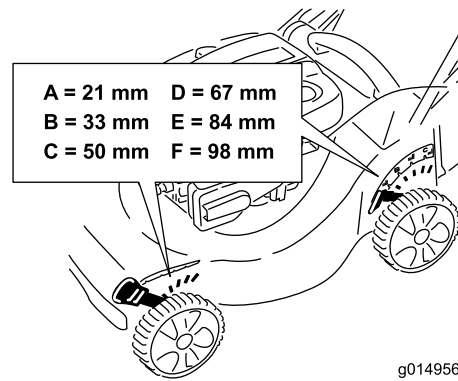

Figure 11
**Note:** To raise the mower, move both cutting height levers forward; to lower the mower, move them rearward (Figure 11).